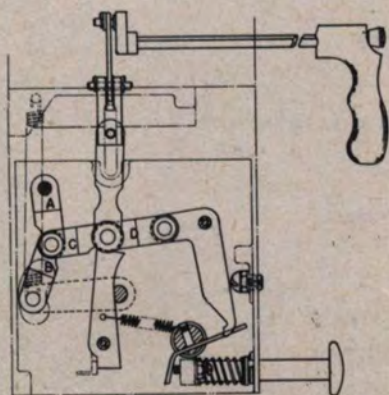

FIG. 9C
**Closed Position** - When the manual handle (Pt. 22) is turned clockwise to the "closed" or "down" position (Fig. 9C) the closing links (Pt. 4) are raised to the vertical position extending toggle links (Pts. 6C and 6D), causing the toggle links (Pts. 6A and 6B), to be extended, forcing the operating crank (Pt. 8) downward against spring (Pt. 7) to close the breaker, because trip arm (Pt. 19) is held fixed by trip latch (Pt. 13). At the same time, the spring (Pt. 12) draws the prop (Pt. 10) under the closing links (Pt. 4) to prevent opening the breaker by counter-clockwise rotation of the closing handle.